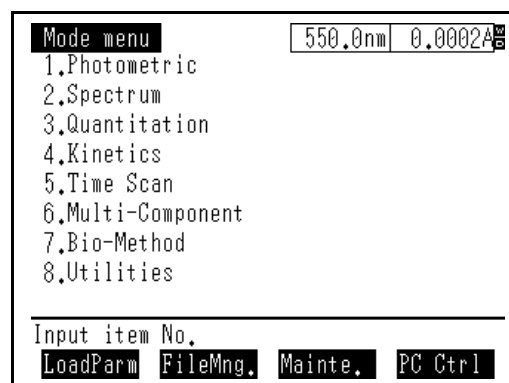

Fig. 3.3
- 1 Press the **F3** [Maint.] key in the Mode menu screen (Fig. 3.3).
- 6 Press the  key to return to the Mode menu screen (Fig. 3.3).